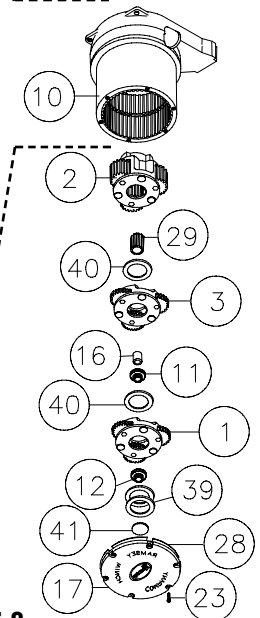

FIGURE 8
3. Gently lift the Gear Housing assembly, working the gears, bushings, etc. that are inside the Gear Housing out so that they are left stacked on the workbench. See Figure 8.
4. Turn the Gear Housing assembly over and set on workbench. Remove the Retainer (item #37) by removing six capscrews (item #21) from Gear End Bearing (item 13). Once the retainer is removed, the Ring Gear (item #10), Cam Ring (item #36), and Locking Ring (item #34) can be lifted off the end bearing.